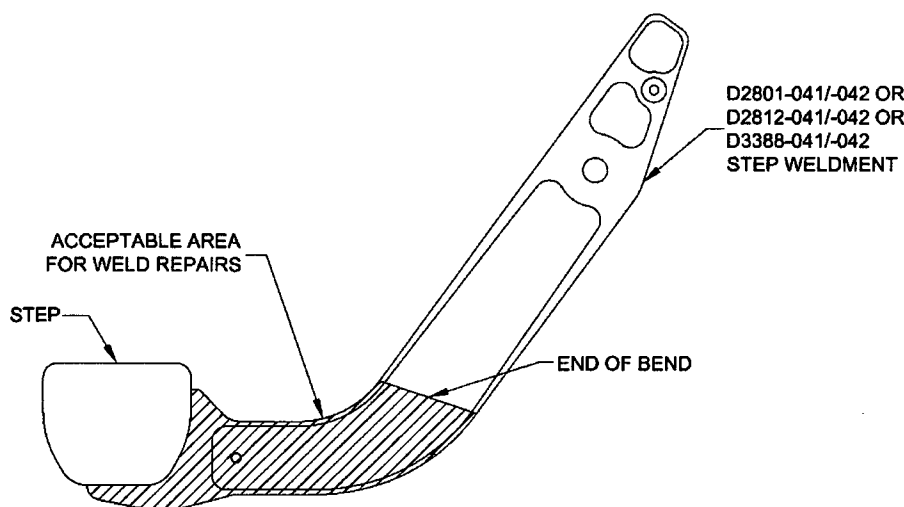

FIGURE 5-1: Acceptable Area for Weld Repairs
- Touch up finish per item 5.1.6.
5.1.4 Cracks up to 0.375" in length in shaded region of D2801-041/-042, D2812-041/-042, and D3388-041/-042 Step Weldments (See Figure 5-1) can be repaired as follows: